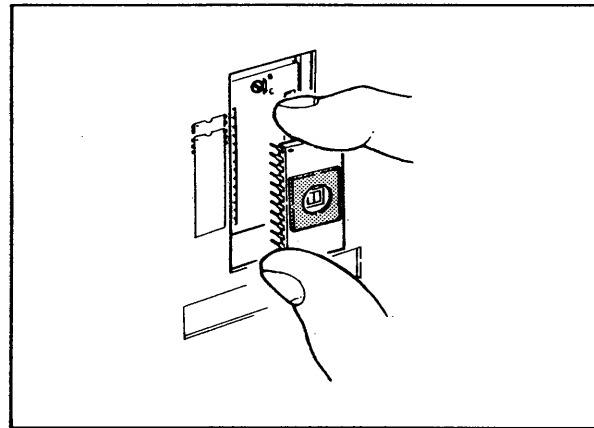

Figure 6-3-8. Removing ROM.
- Grasp the ROM manually and pull it out of the socket, being careful not to deform the pins. (See Figure 6-3-8.)
(2) Installing User ROM